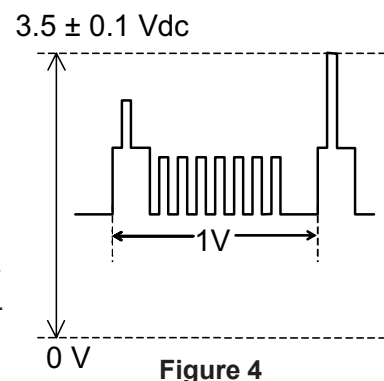

Figure 4
8. Connect an oscilloscope to TP851 on the CRT PWB. The waveform as in figure 4 should be displayed.